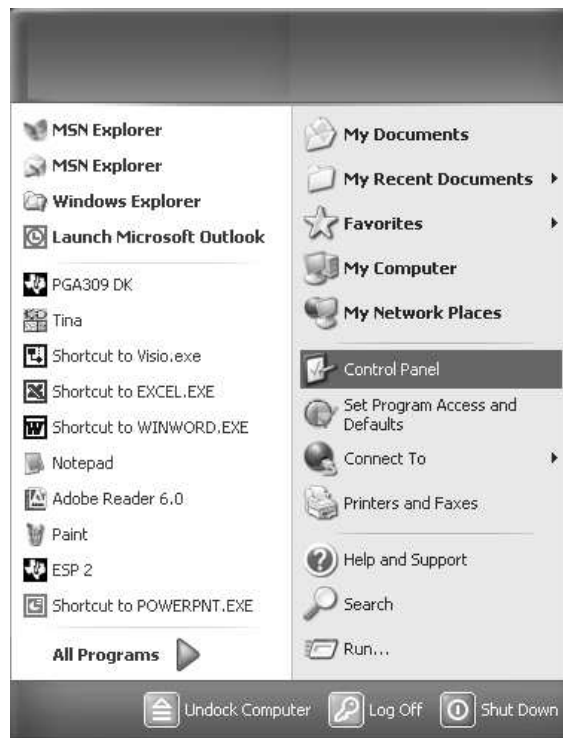
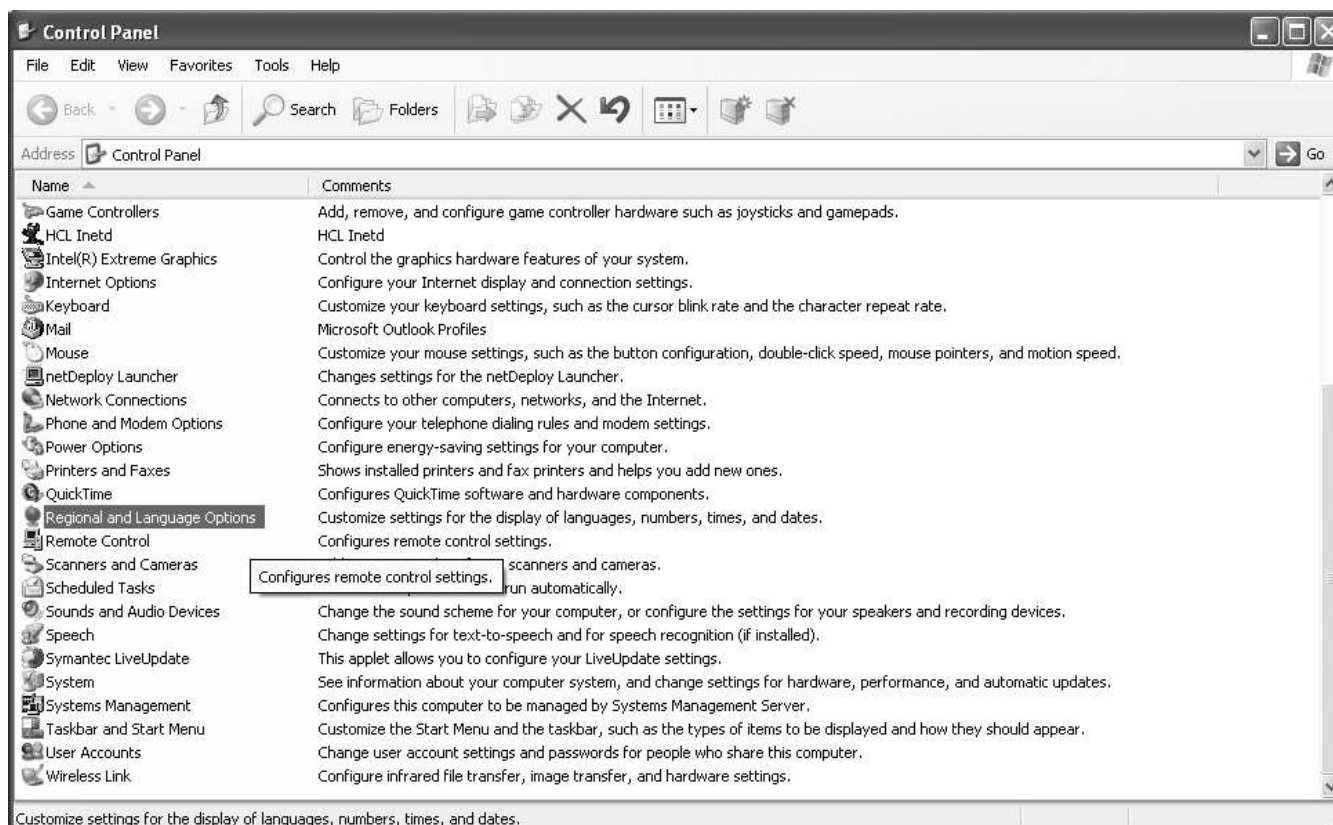

Figure 25. Control Panel Selection
Figure 26. Windows Control Panel
1. From the Windows **Start** Menu, select *Control Panel*. (See Figure 25.) The Control Panel opens in a new window, as shown in Figure 26.